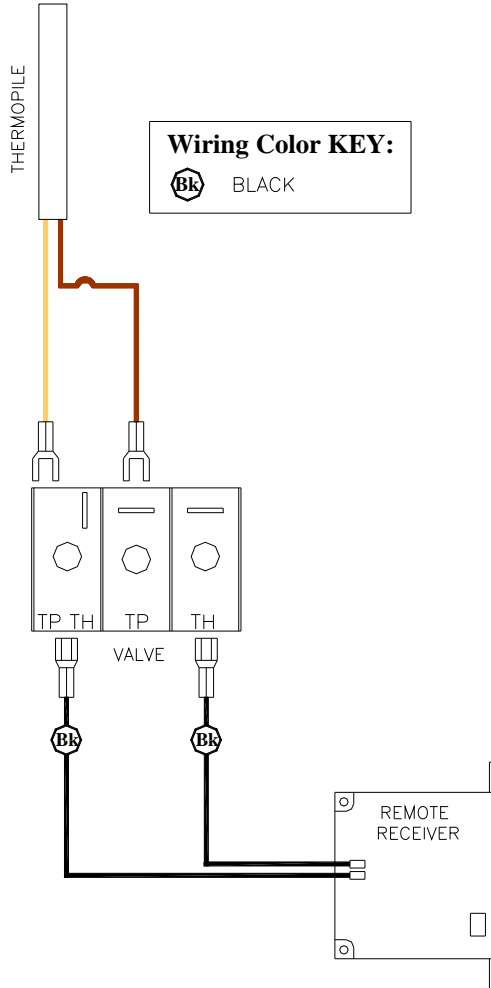

Figure 4
7. Connect the wiring leads to the **Remote Receiver Output Terminals** and the **Gas Valve** terminals as shown in Figures 4 & 5.
8. Connect the wiring leads to the **Gas Valve** as shown in Figures 4 & 5.